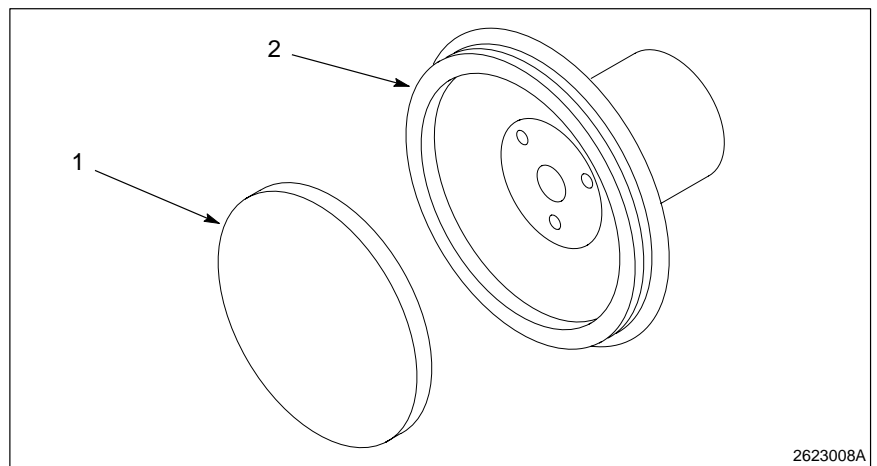

Fig. 5-2 Diffuser Disk Removal
2. See Figure 5-2. Remove the powder bell deflector (2) by rotating the powder bell deflector counterclockwise while facing the front of the powder bell.